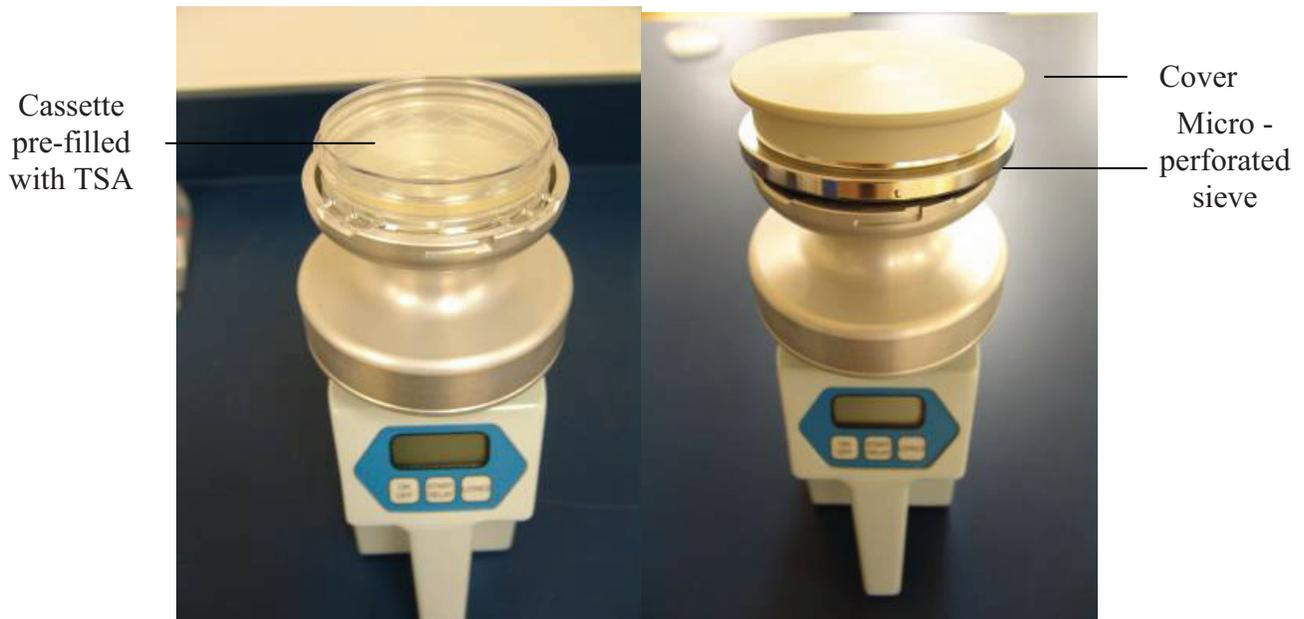

Figure 3: Diagram of the M Air T Millipore Air Tester With Installed Cassette, Micro Perforated Sieve and Cap
9.3. Figure 3: Diagram of the M Air T Millipore Air Tester With Installed Cassette